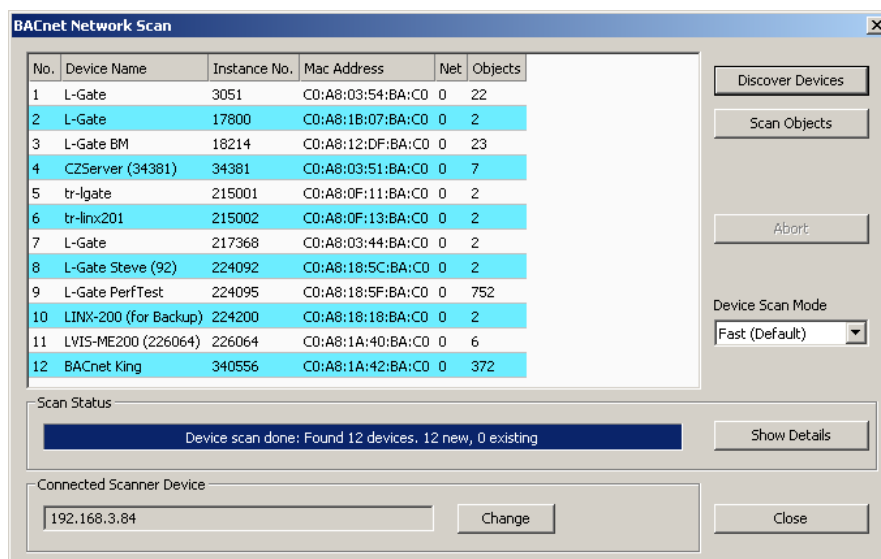

Figure 131: BACnet network scan dialog.
3. Right-click on that folder and select **Scan BACnet Network....** This opens the BACnet Network Scan dialog as shown in Figure 131.